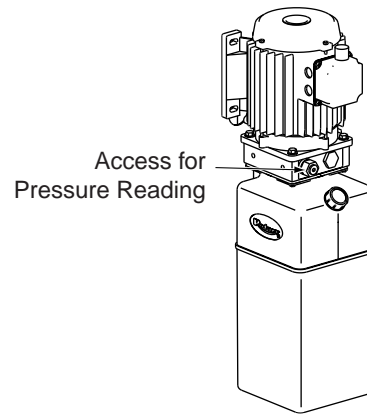

Fig. 23
**19. Check Pressure:** Check hydraulic pressure at the indicated location on the power unit, Fig. 23. The maximum relief is not to exceed 145 Bar for the SPOA30 & SPOA30. Not to exceed 150 Bar for the SPO40. These valves are nonadjustable.